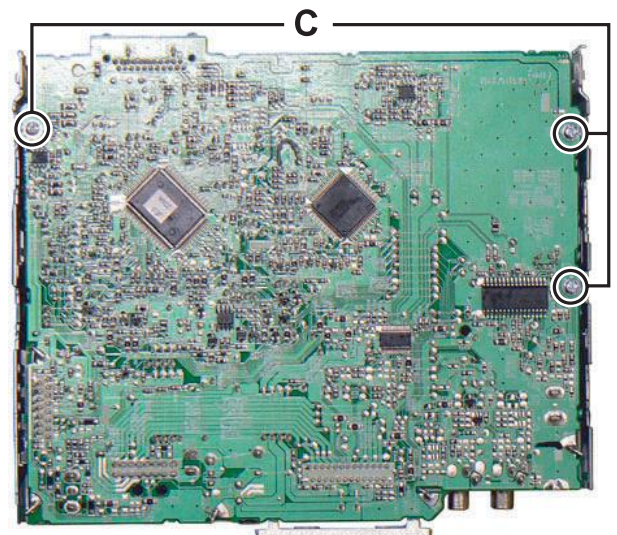

Fig.5
- (3) Remove the 3 screws **C** attaching the Electric unit. (See Fig.5)